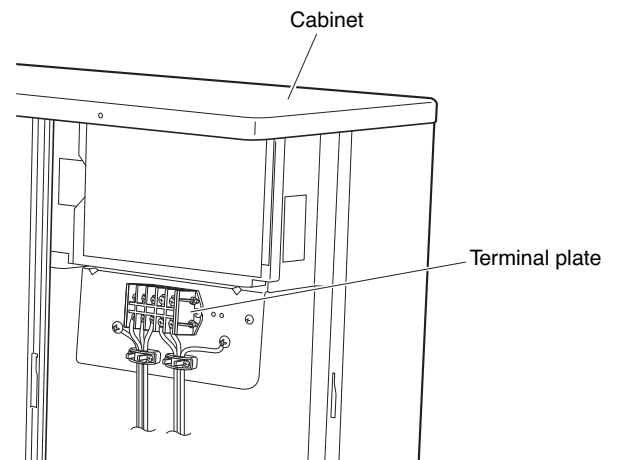

Fig. 46c
- (2) Connect the inter-unit and power supply line according to the wiring system diagram on the inspection panel. (Fig. 46c)
- (3) When connections are completed, check that all connections are correct as shown in the wiring system diagram.
- (4) Be sure to ground the unit according to your local codes.